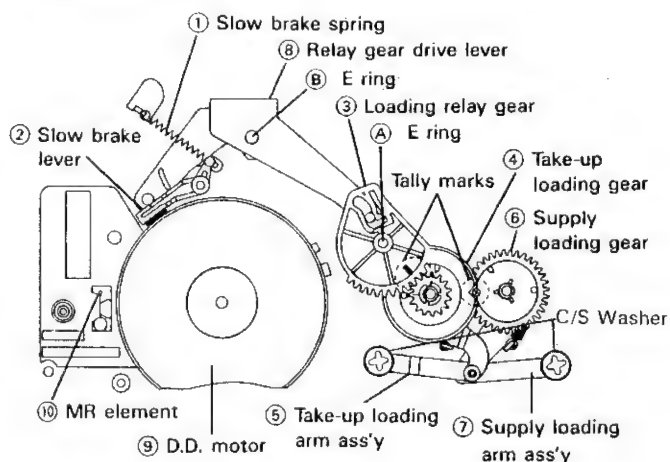

Figure 1-31.
2. In reassembling, match the tally marks on the gears, as shown in Fig. 1-31
1. Place the relay gear drive lever in the unloading state as shown in Fig. 1-31.
2. Set the relay shifter lever ④ to the main chassis; the shifter lever should be adjusted to the reverse guide spring hole in the main chassis. Then place the master cam so that the cut-off part of the boss ① should face the direction of arrow ⇒ ⑤.
3. Place the half-loading reciprocating lever ① so that its cam follower comes in the outermost cam groove. Now attach the E ring ①.